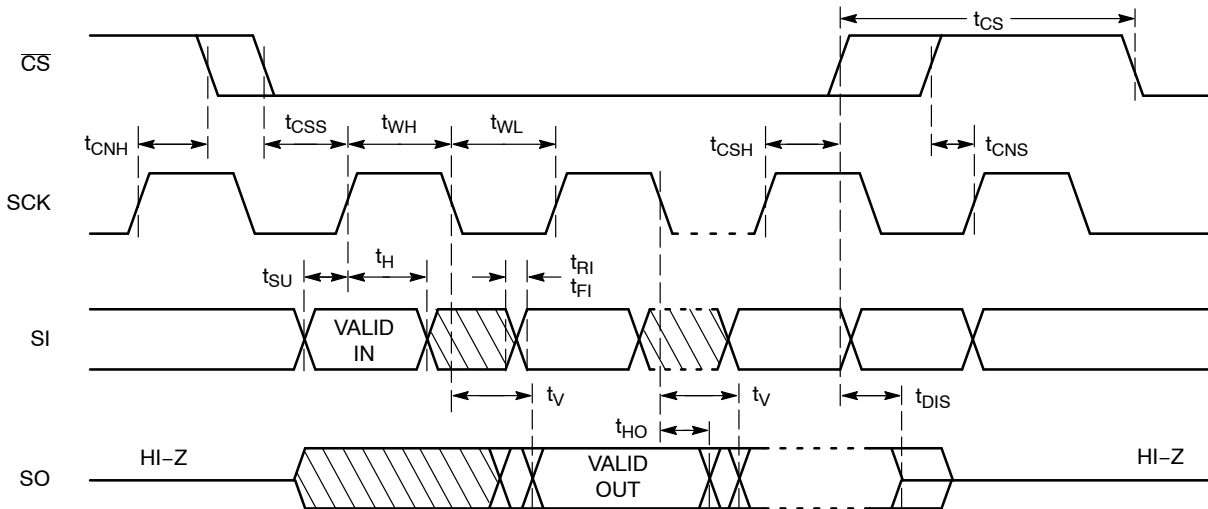

Figure 2. Synchronous Data Timing
7. **All Chip Select (CS) timing parameters are defined relative to the positive clock edge (Figure 2). t_{CSH} timing specification is valid for die revision C and higher. The die revision C is identified by letter "C" or a dedicated marking code on top of the package. For previous product revision (Rev. B) the t_{CSH} is defined relative to the negative clock edge (please refer to data sheet Doc. No. MD-1122 Rev. C).**
After a high to low transition on the $\overline{CS}$ input pin, the CAT25080/160 will accept any one of the six instruction op-codes listed in Table 7 and will ignore all other possible 8-bit combinations. The communication protocol follows the timing from Figure 2.